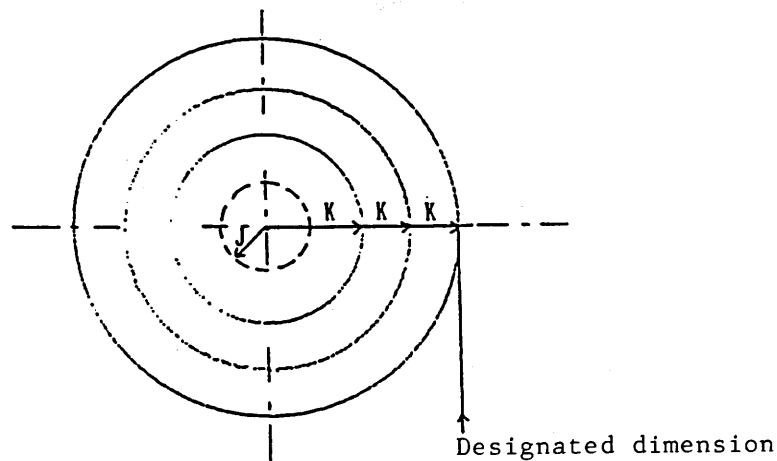

Fig. 7.1 : K-\*\*
- (a) When the cutting width (K) is  $\ominus$ , no finish cutting is done in the spindle and sub-spindle (side face) directions. (Fig. 7.1)